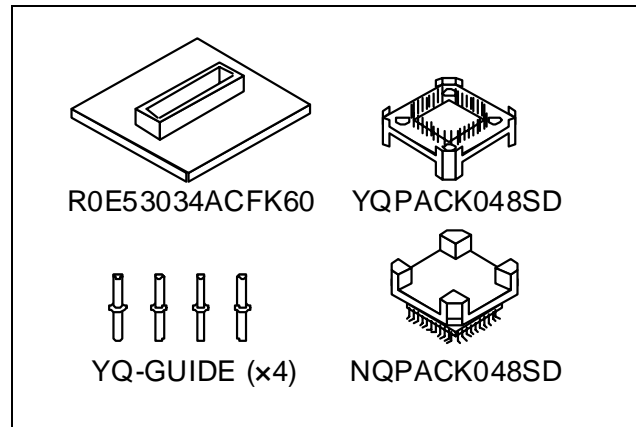

Figure 1 Package components of the R0E53034ACFK60
2. Package Components (See Figure 1)